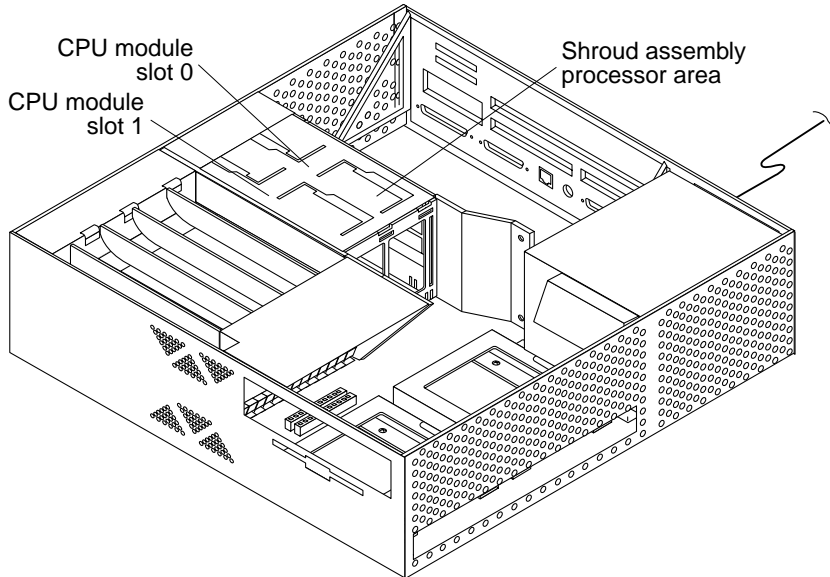

FIGURE 10-1 CPU Module Locations and Shroud Assembly Processor Area
4. Grip the sides of the shroud assembly processor area (FIGURE 10-1).
3. **Identify the appropriate or available CPU module slot** (FIGURE 10-1).